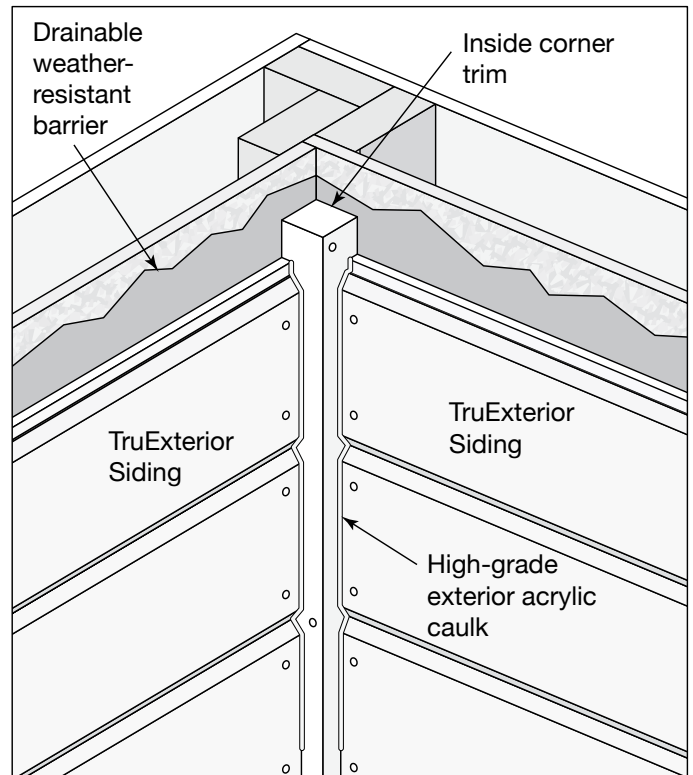

Fig. 9a: Inside corner detail, no gap and with caulk
- When creating inside corners, install 2"x2" trim into the corner using blunt-tipped, roundheaded stainless steel or hot-dipped galvanized nails, or #6 or larger exterior coated or stainless steel trim-head screws (Fig. 9a).
- Use 1 nail every 16" along the length on alternating sides of the trim, ensuring penetration into the framing (Fig. 9a).
- Butt each course of siding up to the corner trim and secure in place (Fig. 9a).
- Seal the joint between the corner trim and the siding with high-grade, exterior acrylic caulk (Fig. 9a).
While TruExterior Siding does not require priming or sealing of end cuts, a variety of caulks and sealants may be used in conjunction with the product to help prevent water intrusion to the structure (Fig. 9a & 9b).